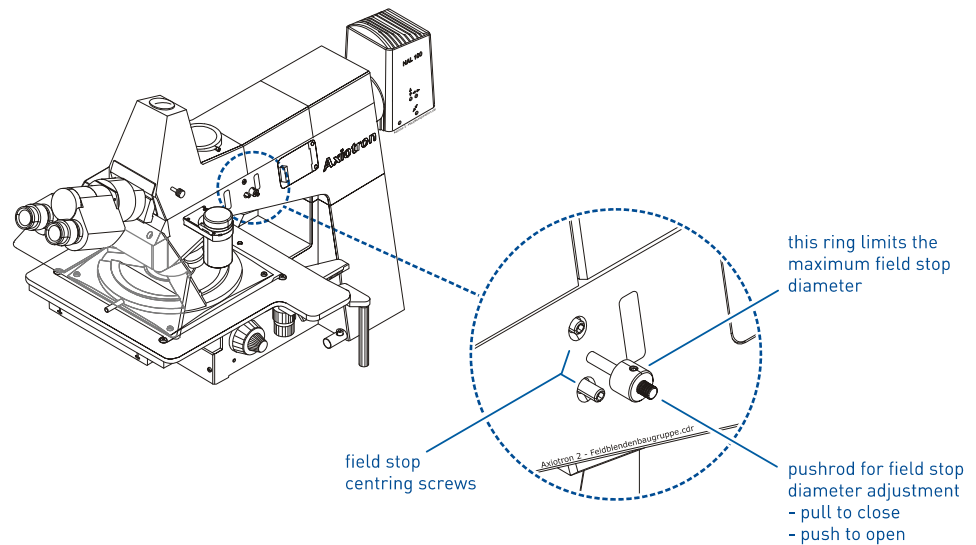

figure 33 Components for the alignment of the field stop
- Unclamp the focus mechanism for the aperture diaphragm assembly, which is located behind the door on the right-hand side of the upper stand part. The screw is shown under **1** in figure 33.
- By shifting the entire aperture assembly back and forth using the focus adjustment screw (**2** in figure 33), the aperture diaphragm is brought in focus, as good as it is possible.
- By adjusting the centring screws (**3** in figure 33), the aperture diaphragm is brought to a position concentric to the objective's pupil. It might be required to adjust the diameter of the aperture diaphragm during this step, if it is not small enough to be seen clearly.
- When using a HAL100 lamp for illumination, move the diffusor on the aperture assembly out of the beam path by turning it's allen screw clockwise (**4** in figure 33).
- Move the diffusor on the aperture assembly (**4** in figure 33) back into the beam path by turning anti-clockwise.